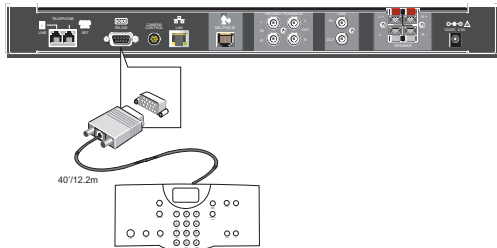
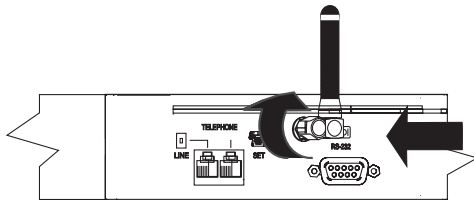

FIGURE 2.10 Attach wired controller to mixer
FIGURE 2.11 Attach external antenna for RF controller
10. If using the wired controller, connect the controller to the mixer's RS-232 serial port using the supplied RJ-11 to DB-9 adapter (see figure 2.10). If using the RF controller, attach the external antenna and turn it until it is upright (see figure 2.11).